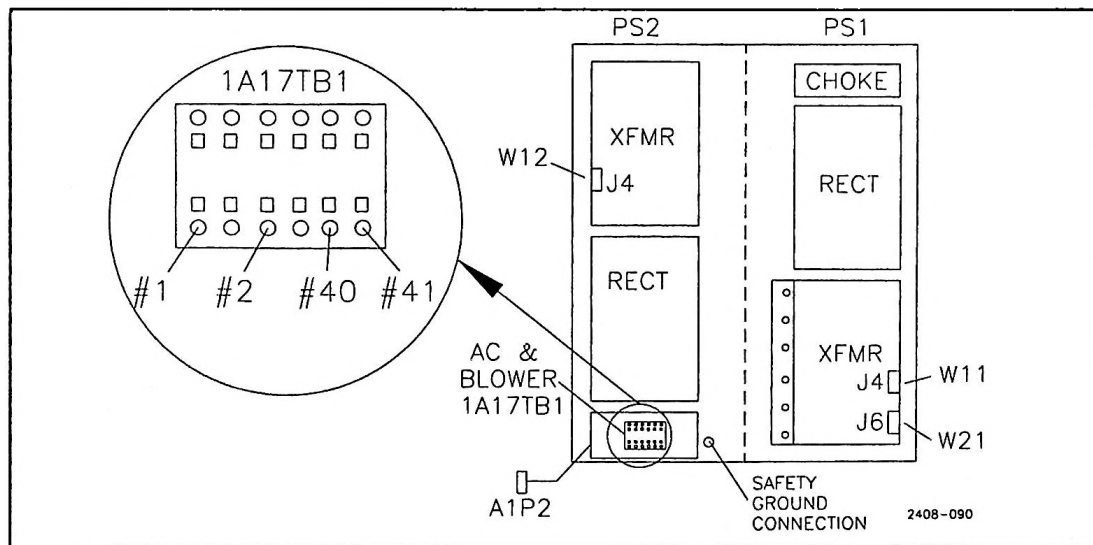

Figure 2-3 Single Phase Power Supply Top View
- a. There are two ribbon cables and one power connector hanging on the right side of the power supply compartment inside the transmitter. The ribbon cables connect to J4 on the Rectifier Boards. The longer ribbon cable, W12 connects to the Rectifier Board on PS2 (nearest the back of the transmitter) and should be connected first. Be sure to route this cable so it does not touch the resistor standing up on top of the Rectifier heatsink. See Figure 2-3.
- e. Wires #1 and #2 (orange cables tied up on the left side of the power supply compartment) plug into the gray Wego block connector on the front of the power supply tray. See Figure 2-3. Wire #1 goes to the left and #2 in the 3rd hole from the left. Wires #40 and #41 are inserted into the 5th and 6th holes respectively from the left. To insert the wires into the Wego block, insert a screwdriver into the rectangular slot behind the wire hole and then carefully push toward the rear of the transmitter. This will open the contact inside the Wego block and the wire can be inserted. Be very careful not to let the wire ends fray as the connectors are very close together and could cause a short. The wire insulation should actually extend just inside the Wego block hole.
- g. Connect the safety ground wire to the stud on the front of the power supply tray, just in front of A17TB1, See Figure 2-3.